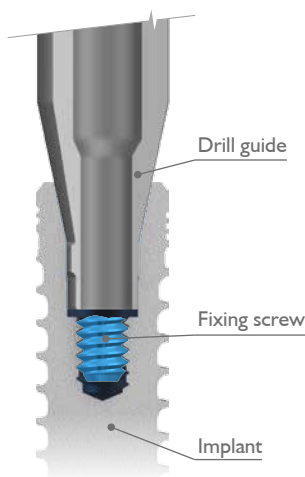
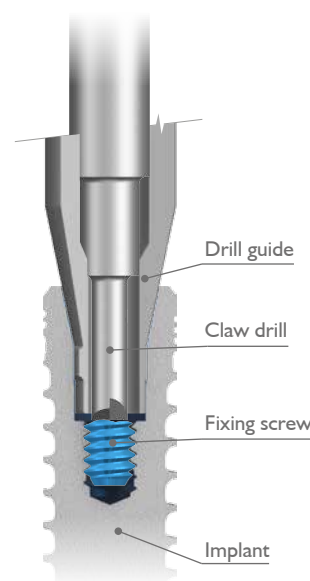

Fig. 4: BioniQ system – Insertion of the drill guide into the implant.
Fig. 5: BioniQ system – Unscrewing the broken screw using a claw drill.
Insert the drill guide (A) into the implant so that it is fully inserted into the hexagon (BioniQ) or octagon (IMPLADENT) of the implant (Fig. 4). Insert the claw drill (B) into the drill guide so that it touches the broken fixing screw (Fig. 5).